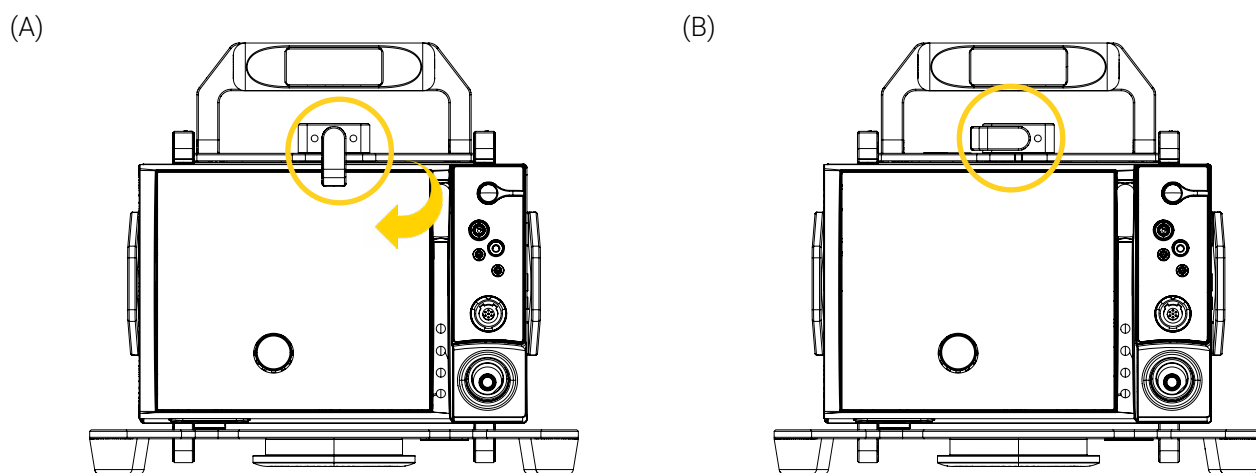

Figure 10: Unlocking the BP380 – GR
2. Unlock the BP380 – GR using the quarter-turn latch (Figure 10). Refer to the « Unlock the BP380 – GR » section on page 18 if needed.